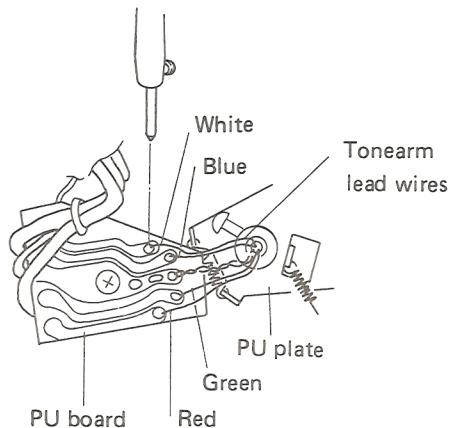

Fig. 3-2 Disconnect the tonearm lead wires
1. Disconnect the tonearm lead wires from the PU board (See Fig. 3-2). Note that some of the lead wires have been soldered to the PU board, and must be disconnected with care.